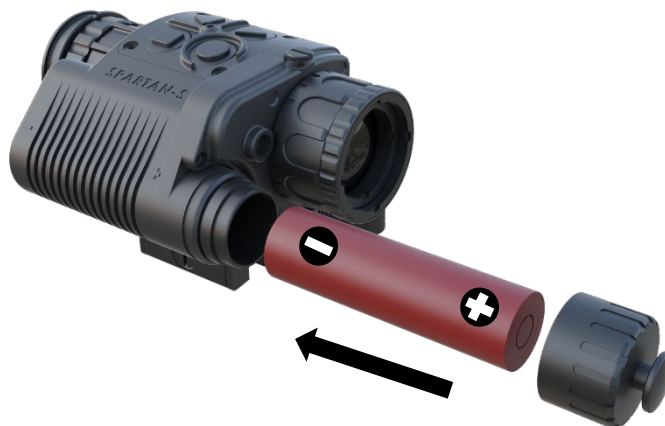

Figure 7: Battery Insertion
1. Unscrew the battery compartment cap as shown in **Figure 7**.